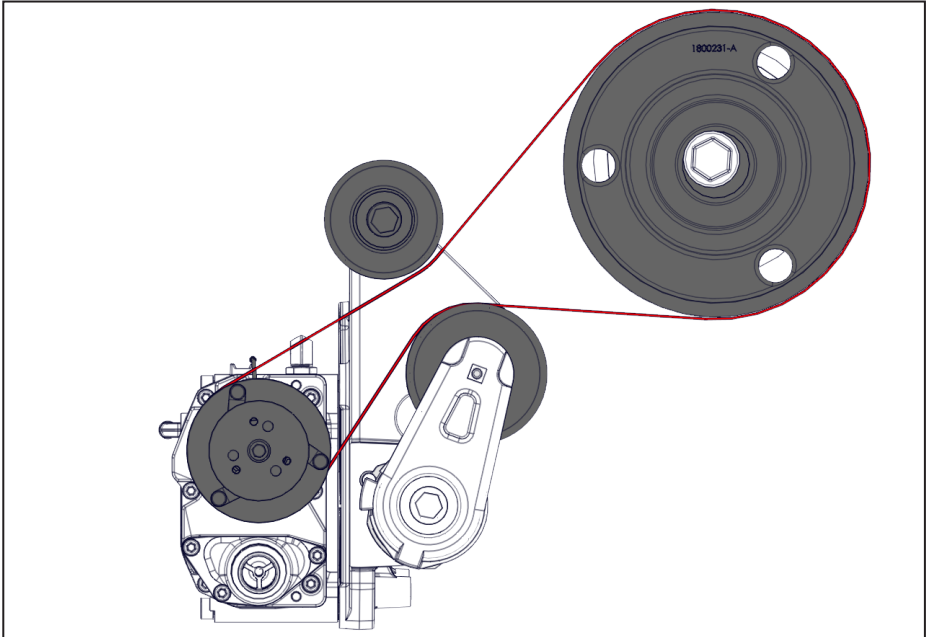

Figure 14 — VMAC belt routing
- Install the VMAC compressor belt (Figure 14).